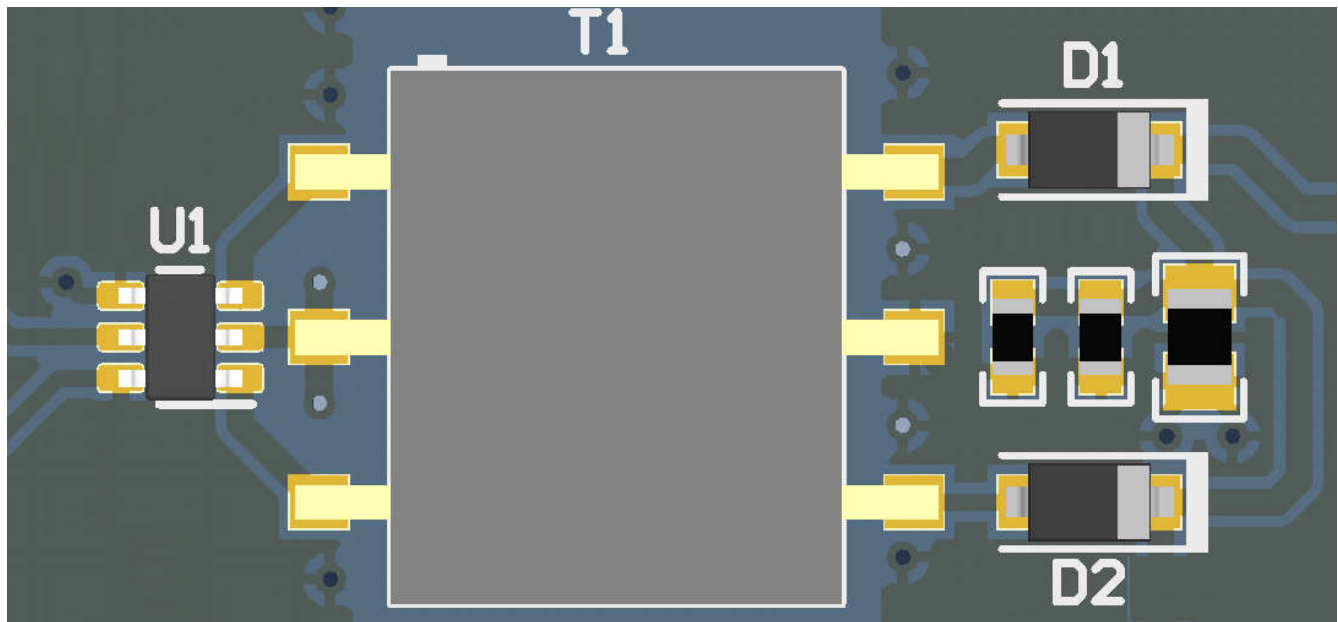

图 11-1. Layout Example of a 2-Layer Board
- The optimum placement is closest to the  $V_{IN}$  and GND pins at the board entrance to minimize the loop area formed by the bypass-capacitor connection, the  $V_{IN}$  terminal, and the GND pin. See Figure 11-1 for a PCB layout example.